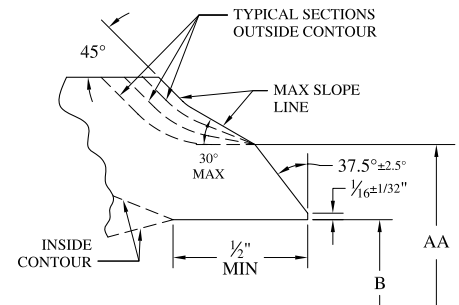
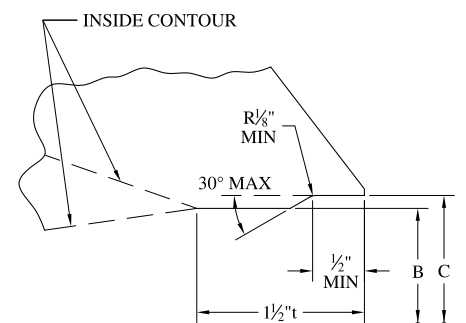

Fig. 1A.- Welding End for No Backing Ring or for Split Backing Ring. Pipe Wall Thickness "t" 7/8" and less.
Fig. 2.- Welding End for Continuous Rectangular Backing Ring (inside contour).\*
When the thickness of the welding end of the valve is greater than that of the mating pipe, and when the additional thickness increases the outside diameter, a taper weld having a slope not exceeding 1:3 may be employed or the greater outside diameter may be extended back in a manner within the maximum slope lines indicated in Figs. 1A and 1B. The transition shall be of a shape avoiding sharp reentrant angles and abrupt changes in slope. The profile of the outside contour shall be at the manufacturer's option provided above conditions are met.
For a joint without a continuous backing ring, the inside contour of the valve end shall be bored to a diameter B to a depth of 1/2" min. The inside diameter of a valve end beyond this machined surface may be either larger or smaller than the inside diameter of the pipe. The transition shall be of a shape avoiding sharp re-entrant angles and abrupt changes in slope. See Figs. 1A and 1B. (Transition shape also applies to Figs. 2 and 3).
For a joint with a continuous rectangular backing ring, the contour of the valve end shall be a straight bore of diameter C, 1/2 in. deep. This depth is based on a backing ring 3/4 in. wide; but if a wider ring is used, the depth shall be increased to provide the 1/8 in. minimum end clearance indicated. See Fig. 2.
\*See Figs. 1A and 1 for Outside Contours.
**BORES:** WALWORTH's standard practice for Class 150 and 300 cast steel valves is that butt welding ends be machined in accordance with Figs. 1A and 1B, bored to match the inside diameters of Schedule 40 pipe in sizes 12-inch and smaller, and of 0.375 inch Standard Wall Pipe in larger sizes, unless otherwise specified. Orders for all sizes of Class 600 and higher must specify the diameter of valves bore, type of backing ring, etc.